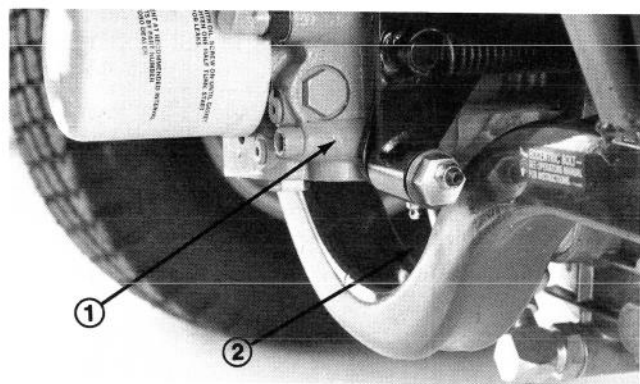

Figure 12
- Apply medium strength Loctite to coupler output shaft on rear of hydrostat (Fig. 12).